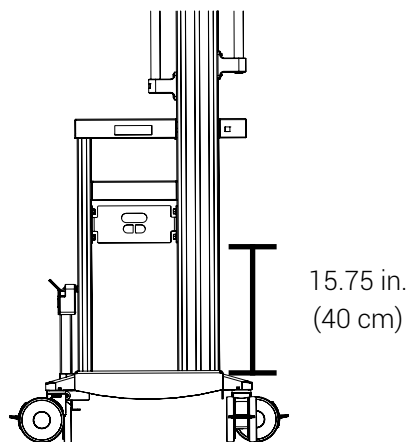

Figure 33: Height adjustment of the UPS on-off switch protective panel
4. Glide the protective panel at a height of 15.75 in. (40 cm) from the UPS shelf, then tighten the four (4) screws using a key 1/2 in. (Figure 33).